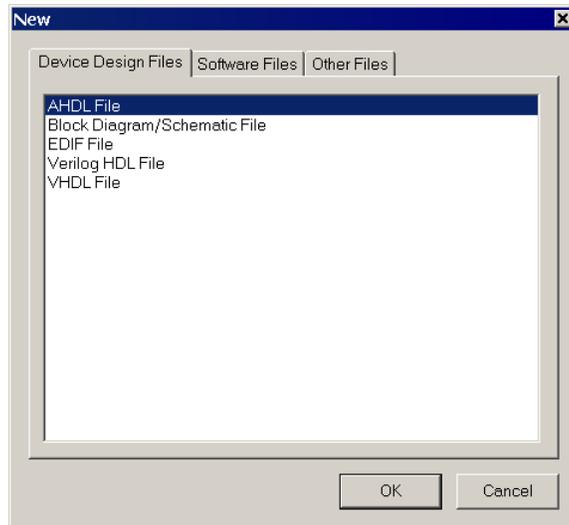
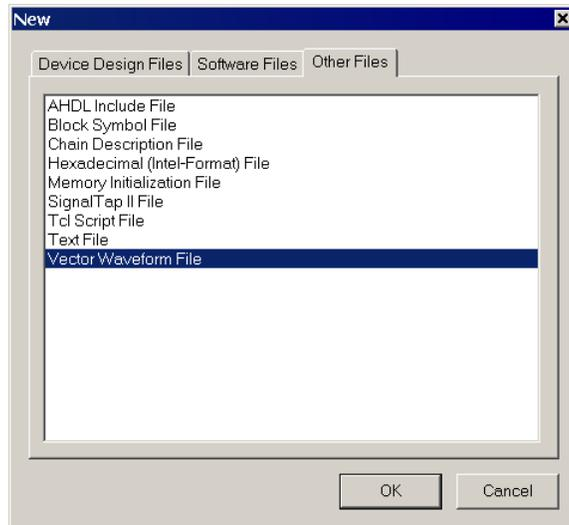

Figure 32. Need to prepare a new file.
Figure 33. Choose to prepare a test-vector file.
1. Open the Waveform Editor window by selecting **File > New**, which gives the window shown in Figure 32. Click on the **Other Files** tab to reach the window displayed in Figure 33. Choose **Vector Waveform File** and click **OK**.